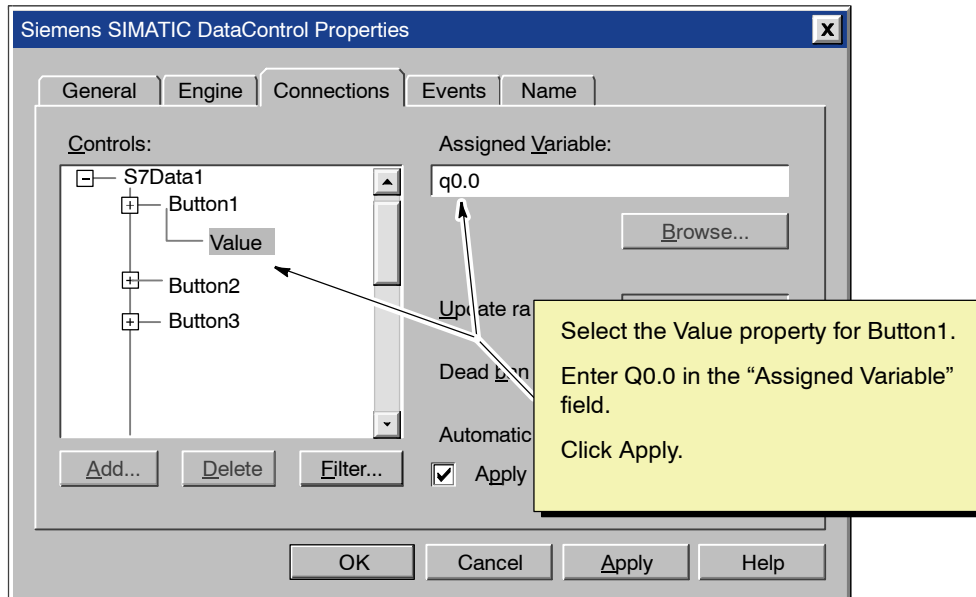

Figure 3-15 Assigning the Variable for Button1
4. With the Value property for Button1 selected, enter **Q0.0** in the “Assigned Variable” field. See Figure 3-15.